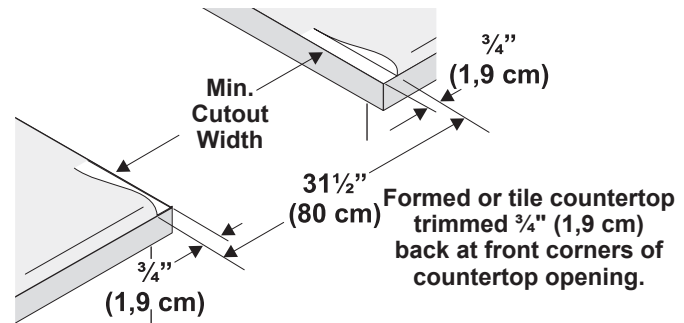

Figure 1
1.2 Countertop Preparation (figure 1)
- **Formed front-edged countertops must have molded edge shaved flat 3/4" (1,9 cm) from each front corner of opening (Figure 1).**
- **Tile countertops** may need trim cut back 3/4" (1,9 cm) from each front corner and/or rounded edge flattened (Figure 1).